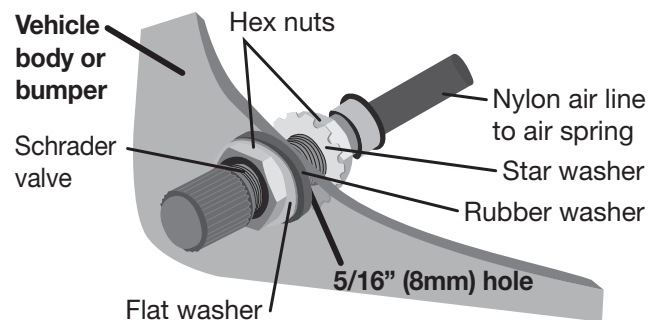

Fig. 26
4. Install the Schrader valve in the chosen location (Fig. 26).